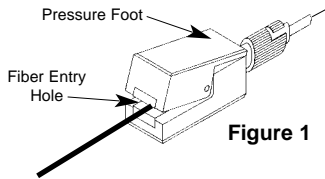

Figure 1
- Clean fiber with alcohol or cellophane tape to remove any debris/dust. Open end of the Bare Fiber Adaptor by pushing down on the **pressure foot**. Insert fiber into **entry hole** and push through until fiber comes out the end of the connector (Figure 1). Pull fiber back slowly until *flush with connector face.